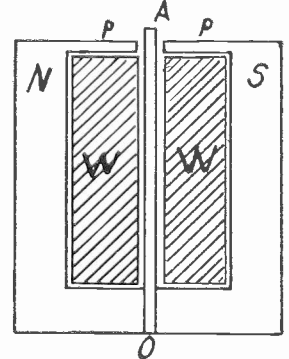

FIG. 4
The balanced relay type of construction is shown in Fig. 4. The permanent magnetic structure is (pNOSp), which supplies an intense field across the gap between (p) and (p). The armature (A) is placed midway between the pole pieces and is lodged at the neutral point (O) of the magnet. The armature coil (W) is wound around the armature. When a varying current is sent through the winding the upper end (A) of the armature becomes either a south or a north pole according to the direction of the current. Suppose it becomes north. The north pole of the magnet repels it and the south pole attracts it, and therefore the movement of the armature is toward the right. When the current reverses the movement of the armature also reverses. This construction is balanced and therefore it is free from second harmonic distortion. It is a sensitive unit but it is somewhat difficult to construct. The armature should be made of soft iron or silicon steel, and it should be sufficiently rigid to pull away from either pole. As a means of decreasing the tendency of the armature to stick to the pole pieces, a thin layer of paint or varnish or non-magnetic metal can be applied to the opposite surfaces of the armature and the pole pieces.